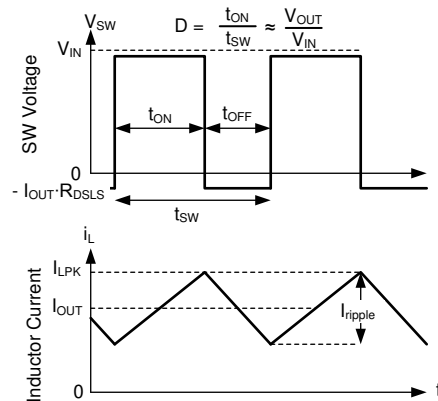

图 8-20. SW Voltage and Inductor Current Waveforms in Continuous Conduction Mode (CCM)
The following operating description of the LM6x4xx refers to 节 8.2 and the waveforms in 图 8-20. Both supply a regulated output voltage by turning on the internal high-side (HS) and low-side (LS) NMOS switches with varying duty cycle (D). During the HS switch on-time, the SW terminal voltage, V_{SW} , swings up to approximately V_{IN} , and the inductor current, I_L , increases with a linear slope. The HS switch is turned off by the control logic. During the HS switch off-time, t_{OFF} , the LS switch is turned on. Inductor current discharges through the LS switch, forcing V_{SW} to swing below ground by the voltage drop across the LS switch. The regulator loop adjusts the duty cycle to maintain a constant output voltage. D is defined by the on-time of the HS switch over the switching period: $D = T_{ON} / (T_{ON} + T_{OFF})$.